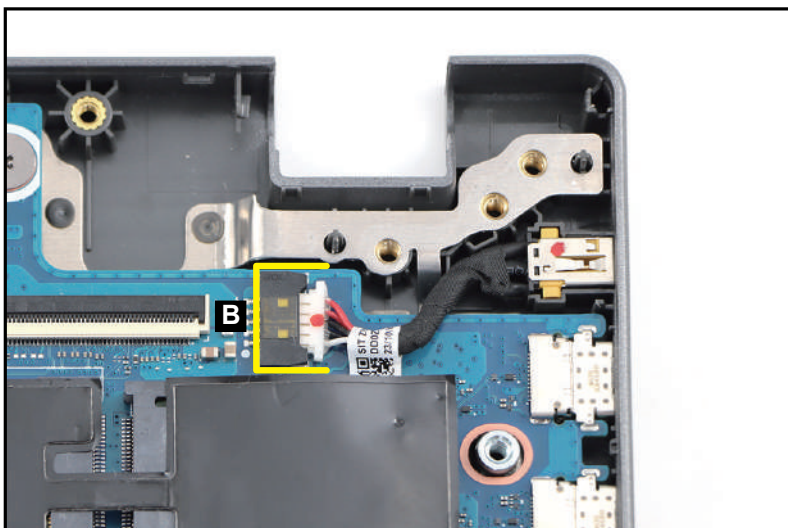

Figure 3-118. Replacing the DC-IN Cable
2. Connect the DC-IN cable to the mainboard connector (B) (Figure 3-118).